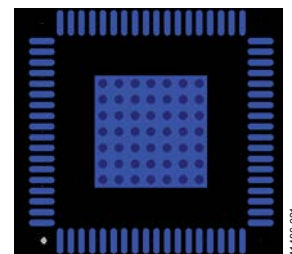

Figure 85. Exposed Pad Layout Example—Top View
- Place vias such that all layers of copper are connected, allowing for efficient heat and energy conductivity. For an example, see Figure 85, which shows 49 vias arranged in a 7 × 7 grid in the pad area.